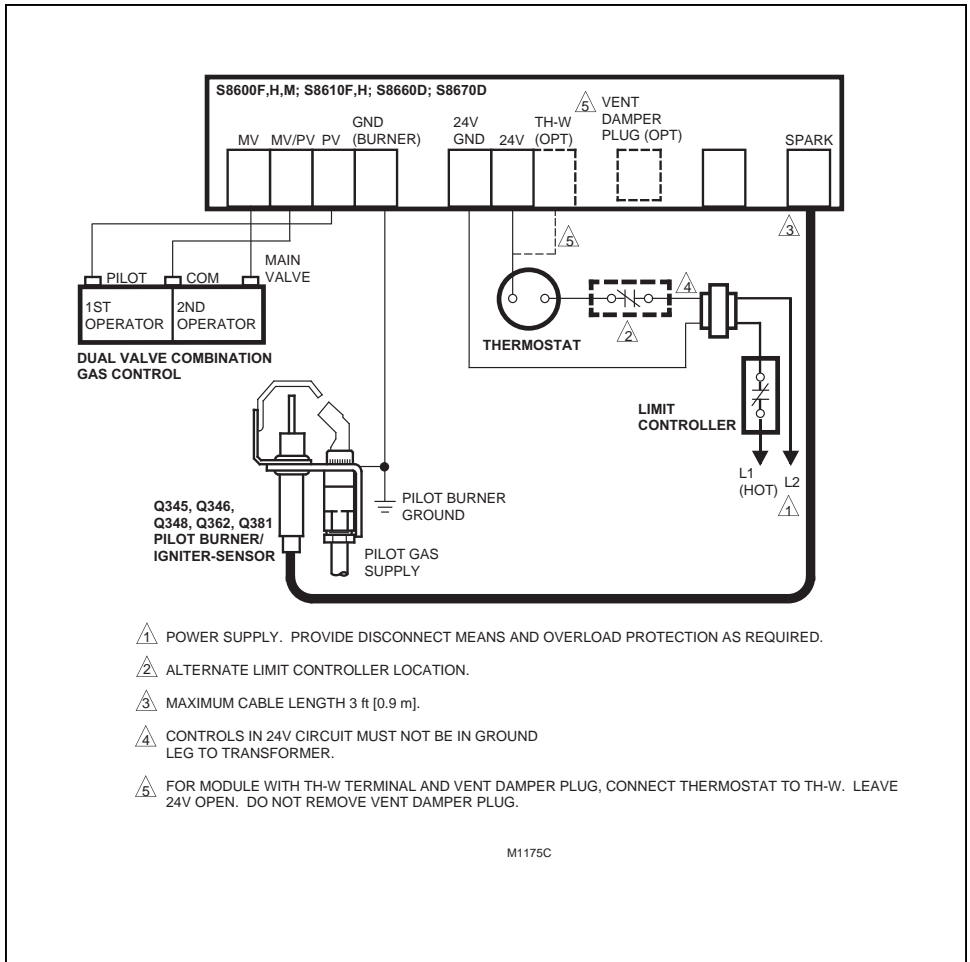

Fig. 1—S8600F,H,M; S8610F,H; S8660D; S8670D connections in a heating system with an atmospheric burner.
1. Connect remaining system components to the ignition module terminals as shown in the appropriate wiring diagram, Figs. 1 to 10.
- Fig. 1 is a basic circuit for a heating only atmospheric burner with S8600F,H,M; S8610F,H; S8660D or S8670D.